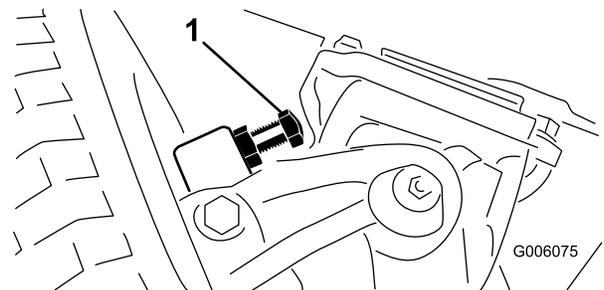

Figure 59
- Thread the bolts in or out until the .090 inch clearance is attained (Figure 59).